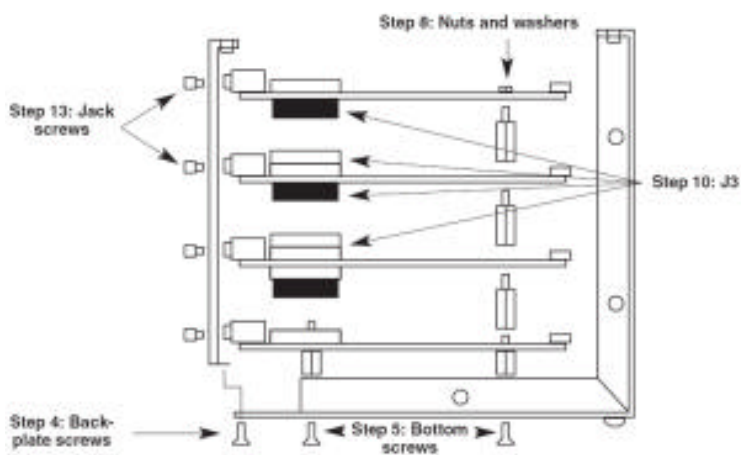
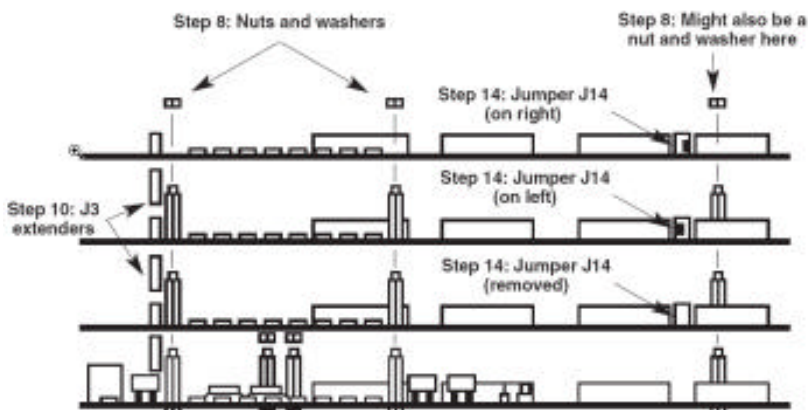
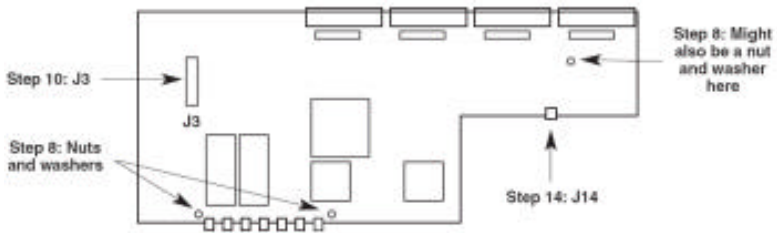

Figure 2. Exploded left-side view of a ServSwitch or ServSwitch Ultra with the maximum number of ports installed.
Figure 4. Exploded front view of a ServSwitch's or ServSwitch Ultra's PCB stack (16-port unit shown).
Figure 5. Top view of the 4-Port Expansion Board (and previously installed PCBs).
4. Unscrew and remove the three countersunk screws on the bottom panel that fasten the back panel to the bottom panel. See Figure 2 on the next page.
5. Unscrew and remove the three countersunk screws on the Switch's bottom panel that fasten the Switch's PCB(s) (printed circuit board[s]) to the panel. See Figure 2 on the next page.
8. Unscrew and remove the nuts and washers from the screw-ends of the standoffs that poke through the topmost PCB. There will definitely be two of these standoffs at the front of the PCB; there might also be one on the narrow right-hand end. See Figure 2 on the previous page, Figure 4 on the next page, and Figure 5 on page 9.
10. You should have received two or three new standoffs with your Expansion Board. Screw these into the screw-ends of the existing standoffs that you exposed in step 8. You should also have received an extender (spacer) for the J3 connector on the PCB that will be below the Expansion Board (see Figure 2 on the previous page, Figure 4 on the next page, and Figure 5 on page 9); plug this extender into the J3 connector, being careful not to bend the extender's pins.
11. Plug the 4-Port Expansion Board into the J3 extender you just attached, being extremely careful not to bend the Board's pins (see Figure 2 on the previous page and Figure 5 on page 9). The new standoffs' screw-ends should poke through the appropriate holes on the Board, and the Board's DB25 connectors should fit in the CPU-port slots you exposed in step 7.
13. Fasten the Board to the back panel by screwing the jack screws you removed in step 9 back in. (See Figure 2 on the previous page.)
14. Make sure that port-numbering jumper J14 (see Figure 4 on the next page and Figure 5 on page 9) is set correctly on all of your unit's "slave boards" (all the boards in the PCB stack except the bottommost main board). On the second board from the bottom, you'll see that J14 has been *removed* to identify that board as the location of ports 5 through 8. On the third board from the bottom, J14 should be set to the *left* to identify that board as the location of ports 9 through 12. On the fourth board (if you've installed one), J14 should be set to the *right* to identify that board as the location of ports 13 through 16. If these jumpers aren't set correctly, the Switch will either access the wrong ports, access multiple ports simultaneously, or light LED 3 ("slave communication error") at power-up.